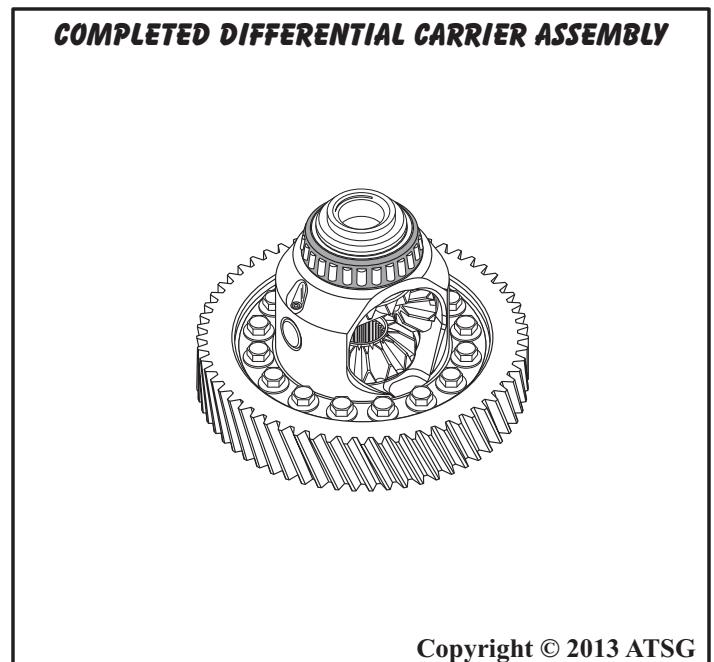

Figure 88
7. Set the completed differential carrier assembly aside for now (See Figure 88).